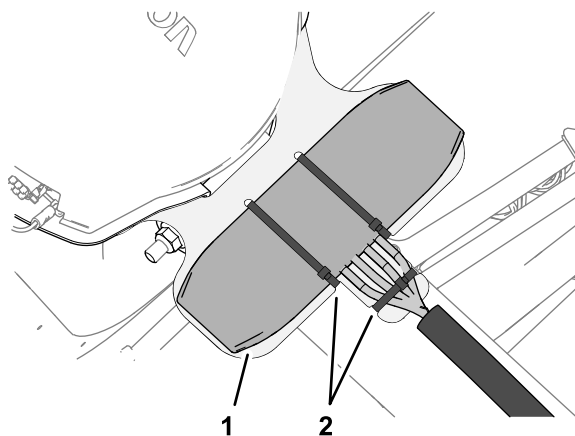

Figure 127
4. Secure the antenna bracket with 3 cable ties as shown in Figure 127.
5. Secure the wire harness of the modem antenna to the bracket as shown in Figure 127.